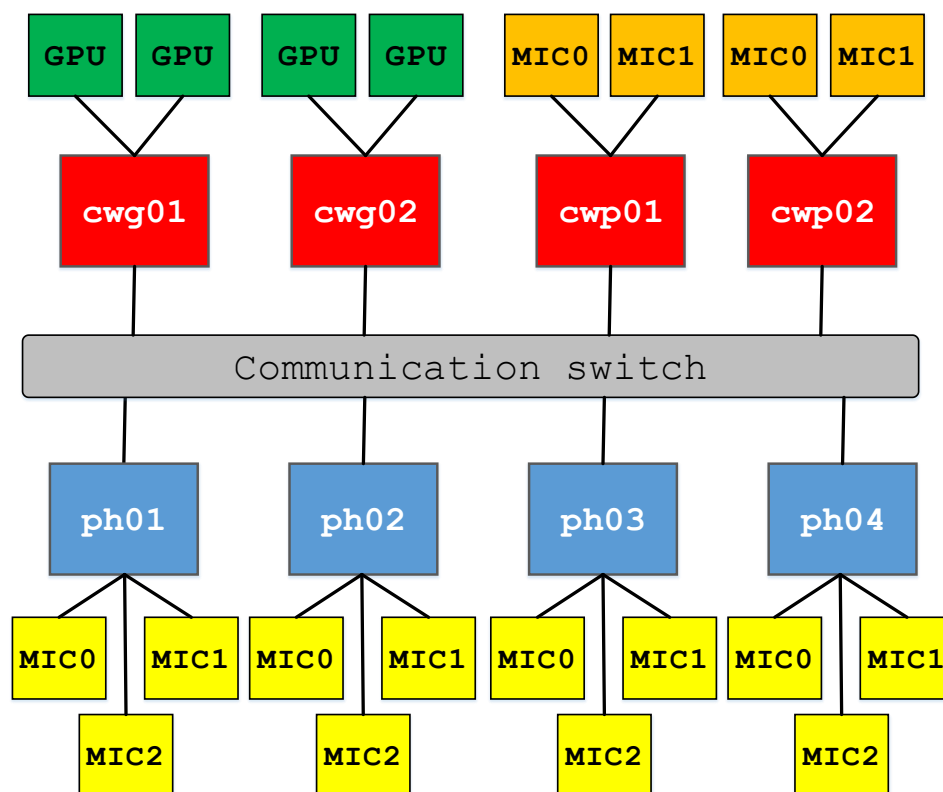

Figure 1: Logical Design of the CYI Xeon Phi Cluster (*phi.cytera.cyi.ac.cy*)
- There are a total of 4 ph nodes (*ph04*, *ph03*, *ph02*, *ph01*). Each one of these has 3 MIC nodes connected to it (*MIC0*, *MIC1*, and *MIC2*). *Ph04* also has 2 nodes with each one having 2 Kepler cards. Figure 1 present the logical design of the Xeon Phi Cluster.